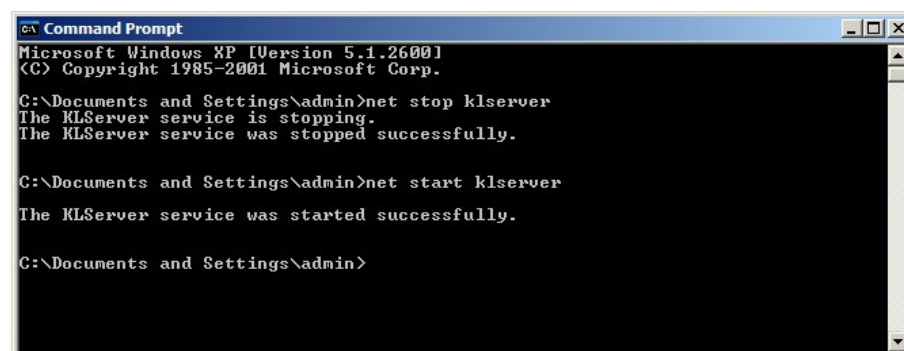

Figure C.17
Step 2: Start KLSERVER. Key in *net start klserver* and press enter. (see figure C.17)